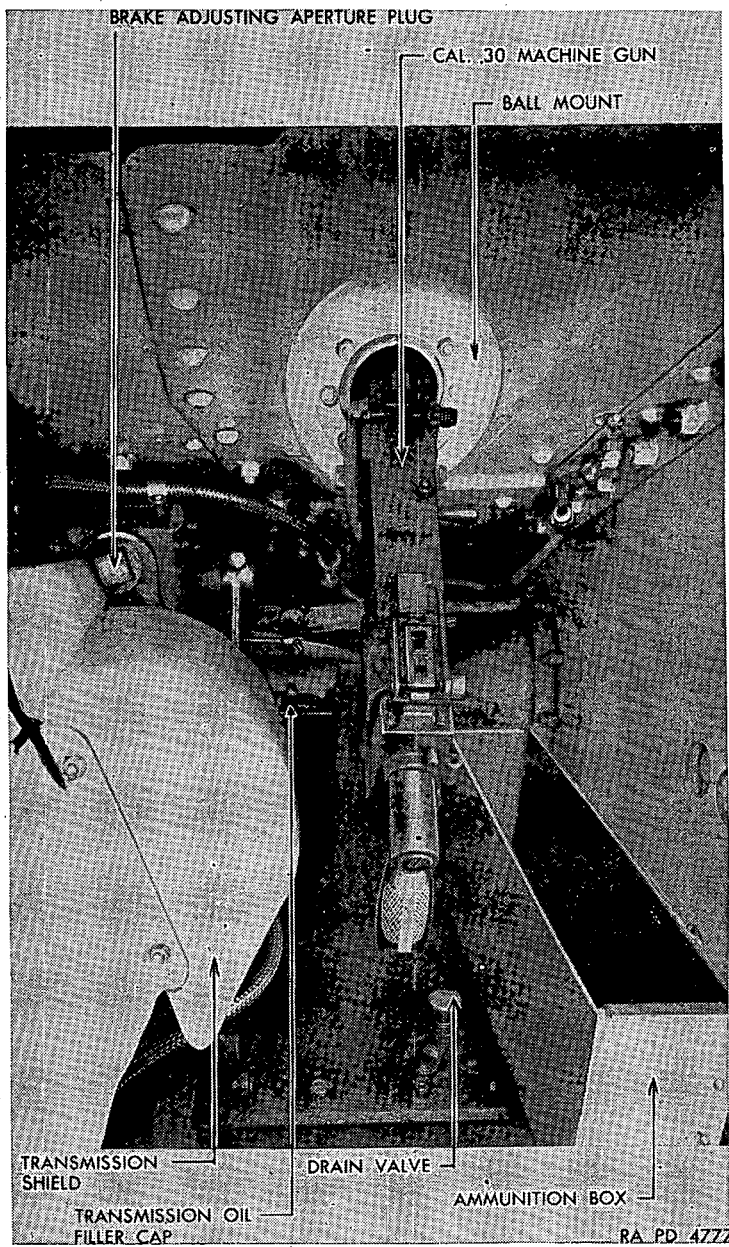

FIGURE 17.—Bow gunner's compartment.
c. *Bow gun mount*.—A 3½-inch ball mount in the bow gunner's compartment mounts a caliber .30 machine gun and is operated by the bow gunner (fig. 17). The gun is manually fired by a trigger, and elevation and traverse are manually controlled by the gunner.